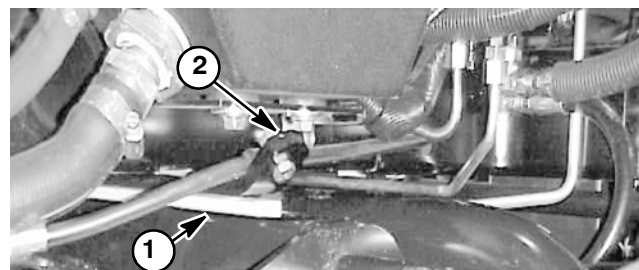

Figure 8
2. Raise lift arms. Make sure clearance between wear strap on the top of the rear cutting unit wear bar and bumper strap is from 0.020 to 0.100 inch (0.51 to 2.54 mm) (Fig. 8).